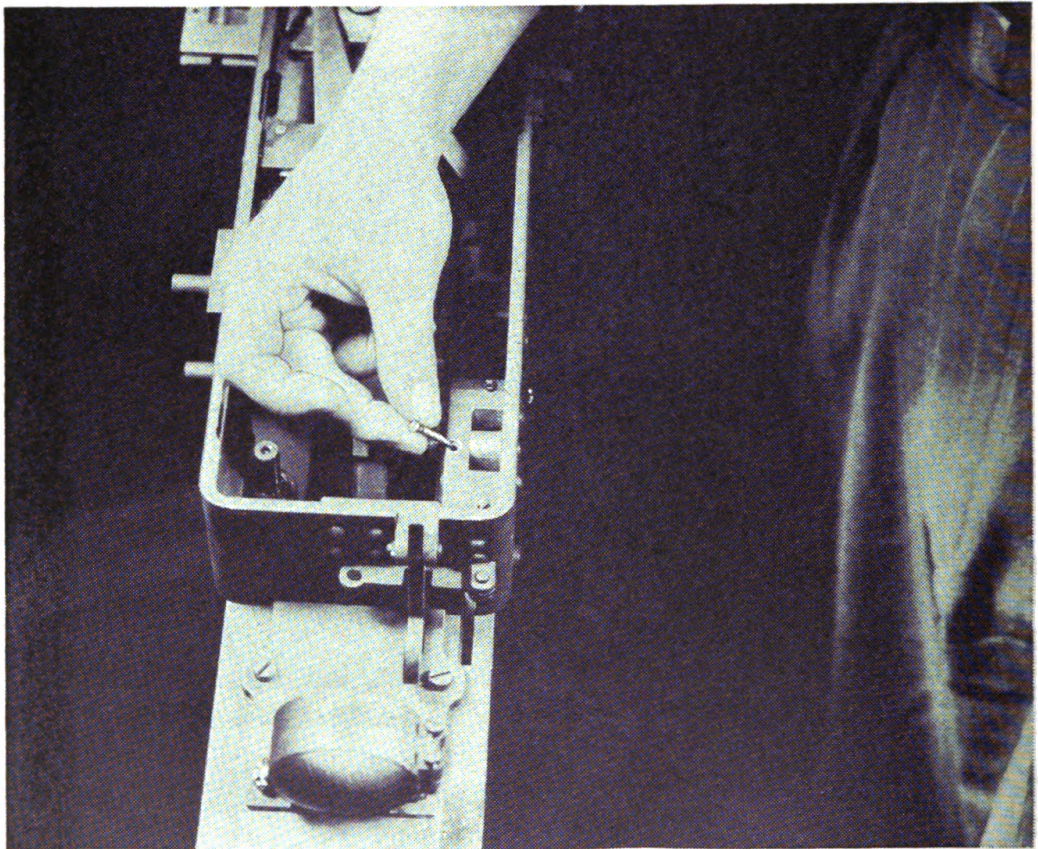

FIGURE 25.—Removing feed lever pin retainer pin.
(4) Lift out the feed lever pin retainer pin (fig. 25).